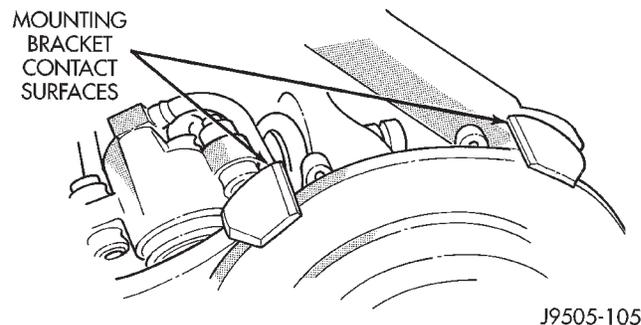

Fig. 40 Brake Shoe Contact Surfaces
(1) Clean brake shoe contact surfaces of caliper mounting bracket (Fig. 40). Use wire brush or emery cloth.